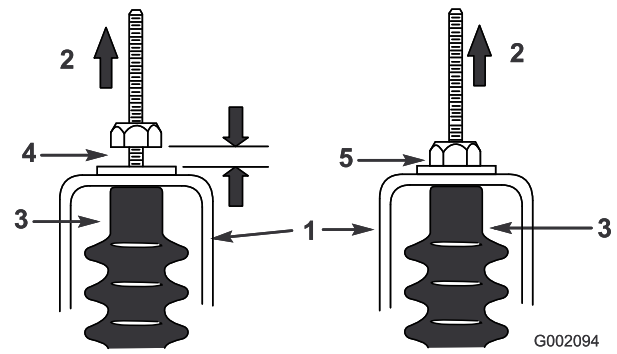

Figure 60
5. Pull up on each shift cable and ensure that there is a 0.76-1.52 mm (0.03-0.06 inch) gap between the nut/washer and the neutral bracket (Figure 60).